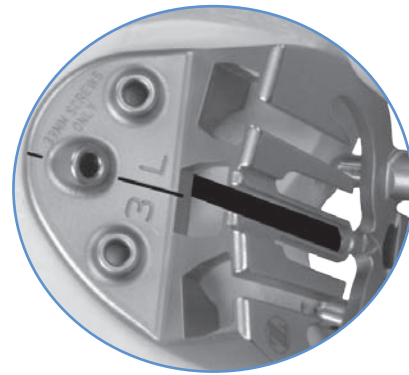

Fig. 26
- The engraved line on the Milling Guide and the central milling track represents the location of the patellofemoral track on the implant and may be used as reference (**Fig. 26**).